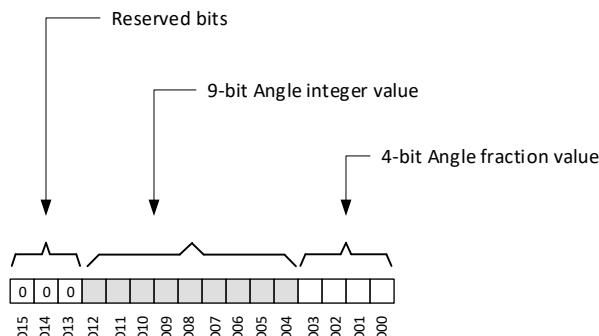

Figure 7-8. Angle Data Definition
The TMAG5170 calculates the angle based off the ANGLE_EN register bit settings. Figure 7-8 shows that the ANGLE_RESULT register stores the angle information in the 13 LSB bits. Bits D04-D12 store angle integer value from 0 to 360 degree. Bits D00-D03 store fractional angle value with a resolution of 1/16 degree. The 3-MSB bits are always populated as b000. The TMAG5170 CORDIC offers angle resolution of 1/4 degree. An external CORDIC may be used if higher angle resolution is required. Use Equation 7 to calculate the angle.
- D_i is the data bit as shown in Figure 7-8.